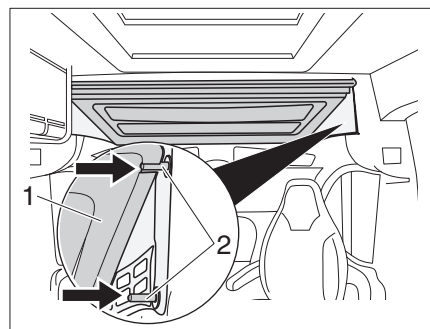

Fig. 28 Multiroof folded upwards
- ▷ When folding down the Multiroof (Fig. 28,1), make sure that it always rests securely on both locking pins (Fig. 28,2) on the left and right.
The Multiroof (Fig. 28,1) can be positioned at two different heights with the locking pins (Fig. 28,2).
- Lift the Multiroof (Fig. 28,1) using one hand. Press on the upper or lower locking pins (Fig. 28,2) with the other hand and clip the Multiroof into the desired position.
- Gently push the Multiroof (Fig. 28,1) upwards to remove it from the locking pins (Fig. 28,2).